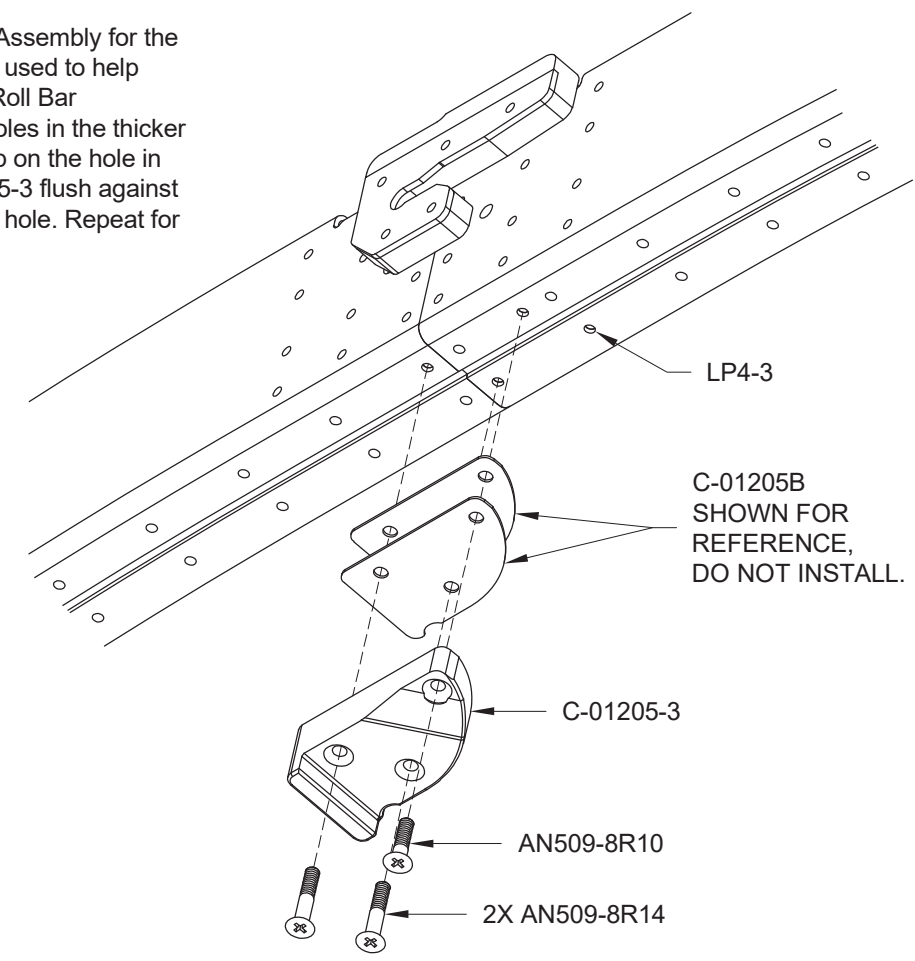

FIGURE 2: C-01205-3 INSTALL
Step 6: Install C-01205-3 with the hardware shown in Figure 2. Do not install the two C-01205B's. They are installed in Section 34iS/U for adjustment of the canopy, if necessary, and are shown here for reference purposes only.